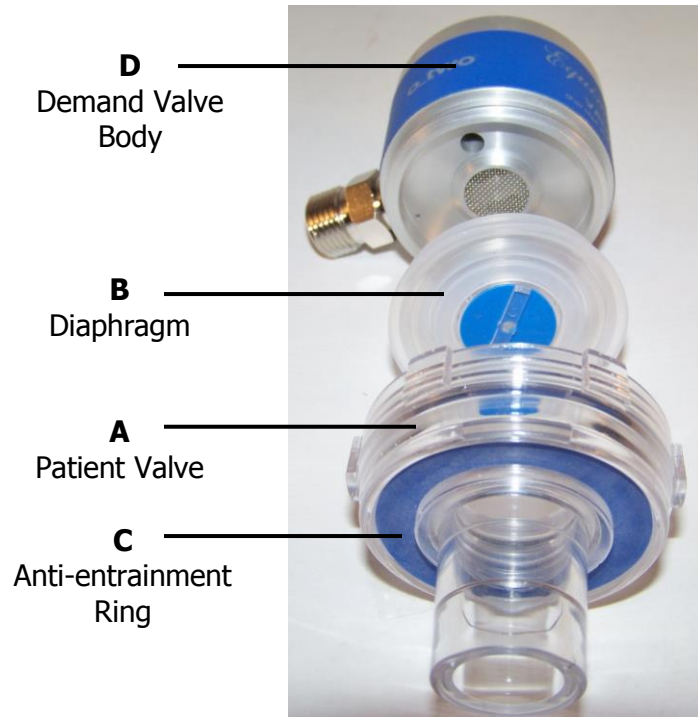

Fig.1
3. Unscrew patient valve (A) from the unit body being careful to ensure that the diaphragm (B) is retained (Fig1).
4. Remove the diaphragm and anti-entrainment ring (C) from the patient valve swivel housing and wash these components thoroughly in a mild soap solution;
7. The demand valve body (D) and gas supply hose can be wiped over with a soft cloth and mild soap solution and may be disinfected using a hard surface disinfectant that is compatible with aluminium.